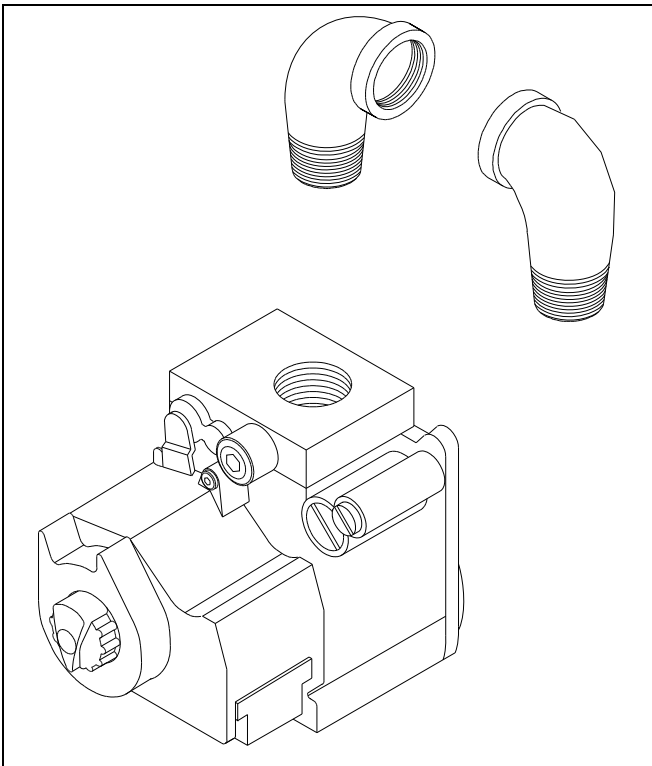

Figure 20. Changing position of elbow for gas line entry.
- Gas line entry may also be routed through the 1 ½ inch hole in the right side of the casing by positioning a 90 degree street elbow (field supplied) on the gas valve as shown in Figure 20.
- For gas line entry through the knockout in the left side of the casing, position a 90 degree street elbow (field supplied) as shown in Figure 20. ½" NPT pipe can now be attached to the furnace gas control from the left side.
- For gas line entry through either of the upper knockouts located in the right and left sides of the casing, remove any attached street elbow from the gas valve, shown in Figure 20. 1/2" NPT pipe can now be routed directly to the furnace gas control.